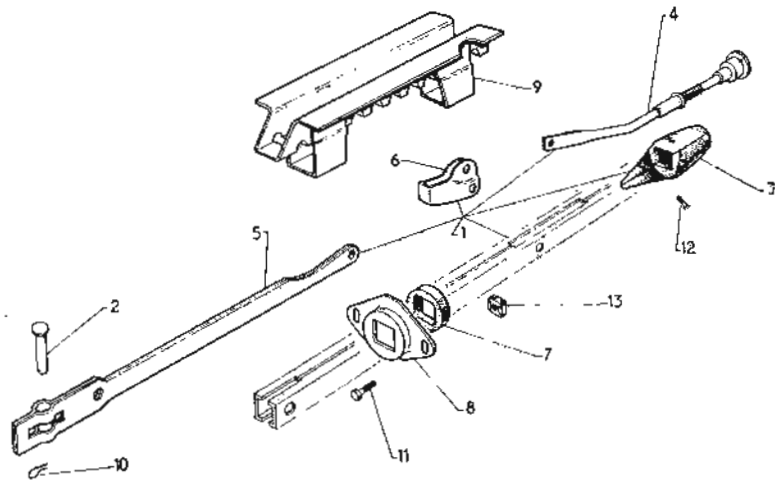

FIG. 45 PARKING BRAKE HANDLE & RODS.
Tighten nuts (15) on both cables until the brakes begin to rub when the handle (3, Fig.45) is pulled to the third notch. On the fifth notch the brakes should be completely locked.